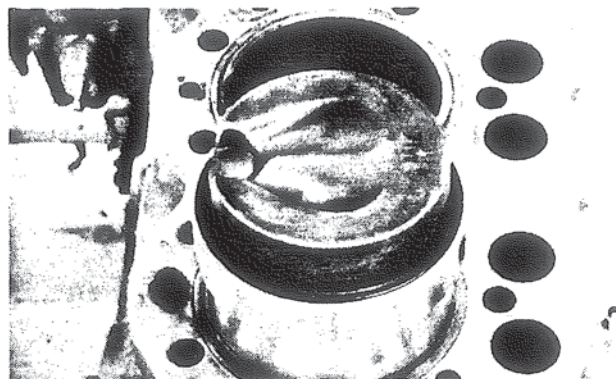

Figure 62. Correct Piston Assembly Sequence.
- D. Place in piston bore and turn until precombustion depression is opposite camshaft. Figure 62.